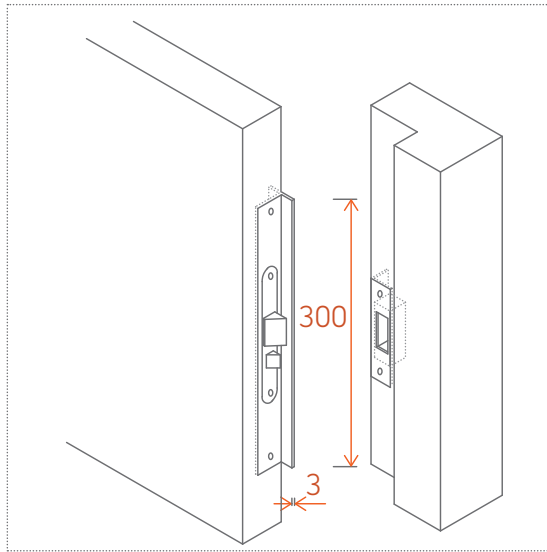

Figure 3: Cover plate
- A **cover plate** is defined as a steel or brass T-profile with a length of at least 30 cm and a thickness of 3 mm installed at the lock of a non-rebated door (Figure 3).